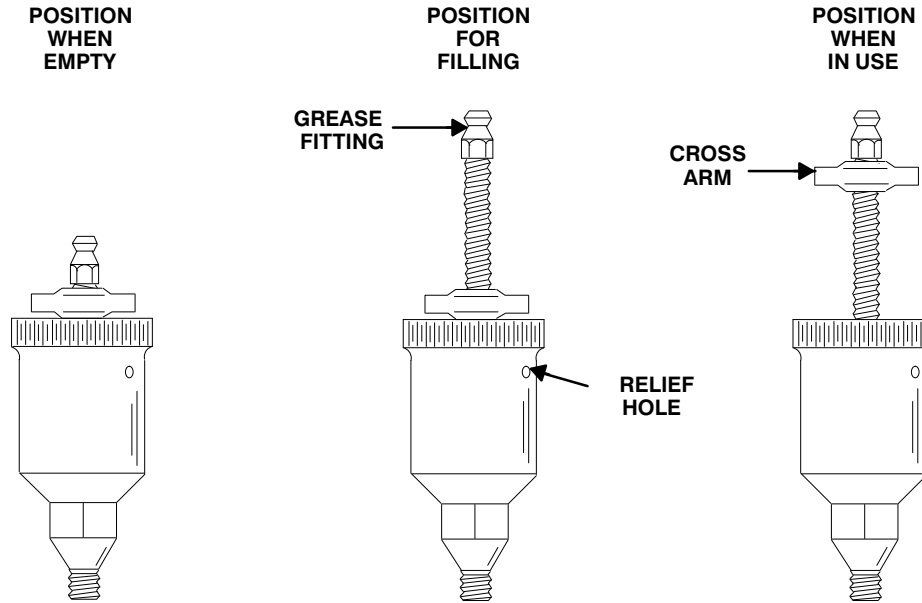

Figure 6. Automatic Lubricating Grease Cup
Before removing the impeller, turn the cross arm on the automatic grease cup (12) clockwise until it rest against the cover (see Figure 6). This will prevent the grease from escaping when the impeller is removed.
this will release the spring to apply grease to the seal (see Figure 6).